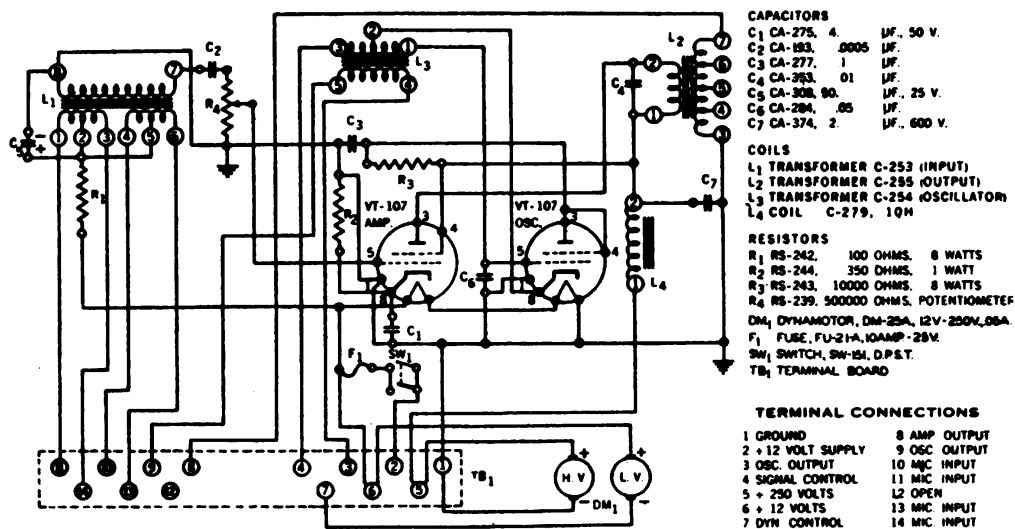

Figure 7. - Circuit Diagram for
a. Interphone Amplifier BC-367 - (See Fig. 7 For Circuit Diagram)
(1) Amplifier Circuit - The amplifier is of the transformer-coupled type and provides a maximum output of over 2-watts. The rising fidelity characteristic (attenuation at lower frequencies) from 100 to 2,500 cycles, tends to compensate for the poor high-frequency response of Microphone T-30-A and to prevent excessive noise pick-up. The input transformer consists of a two-winding primary with each winding center tapped, and a single-wound secondary. The audio-frequency voltage, after being stepped up by the input transformer, is applied through a potentiometer volume control to the grid of